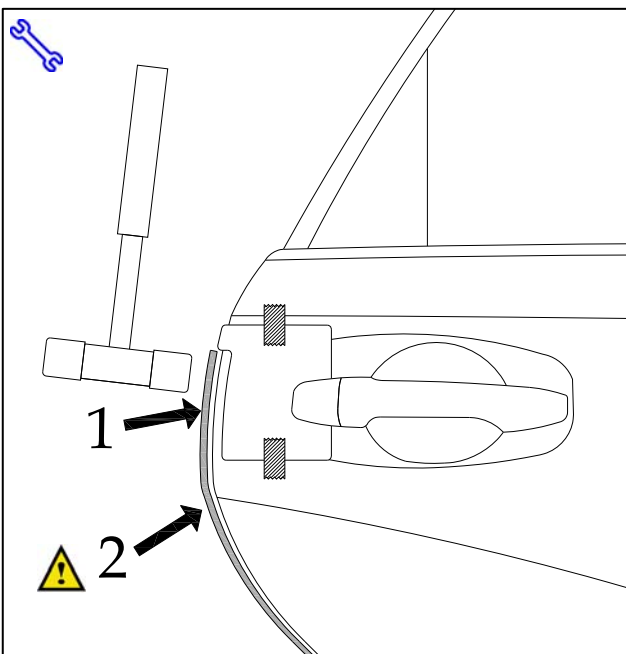

Fig. 1-5
- (e) While holding DEG in proper alignment with one hand (Fig. 1-5, arrow #1), use **soft side of the rubber mallet** to begin tapping the channel onto the door edge starting at the top of the DEG. (Fig 1-5)
- (f) As you continue down the door, stop when you come to the second cut-out relief located on the back edge of the DEG (Fig 1-5, arrow #2) and ensure the DEG is still correctly aligned before proceeding down the door.